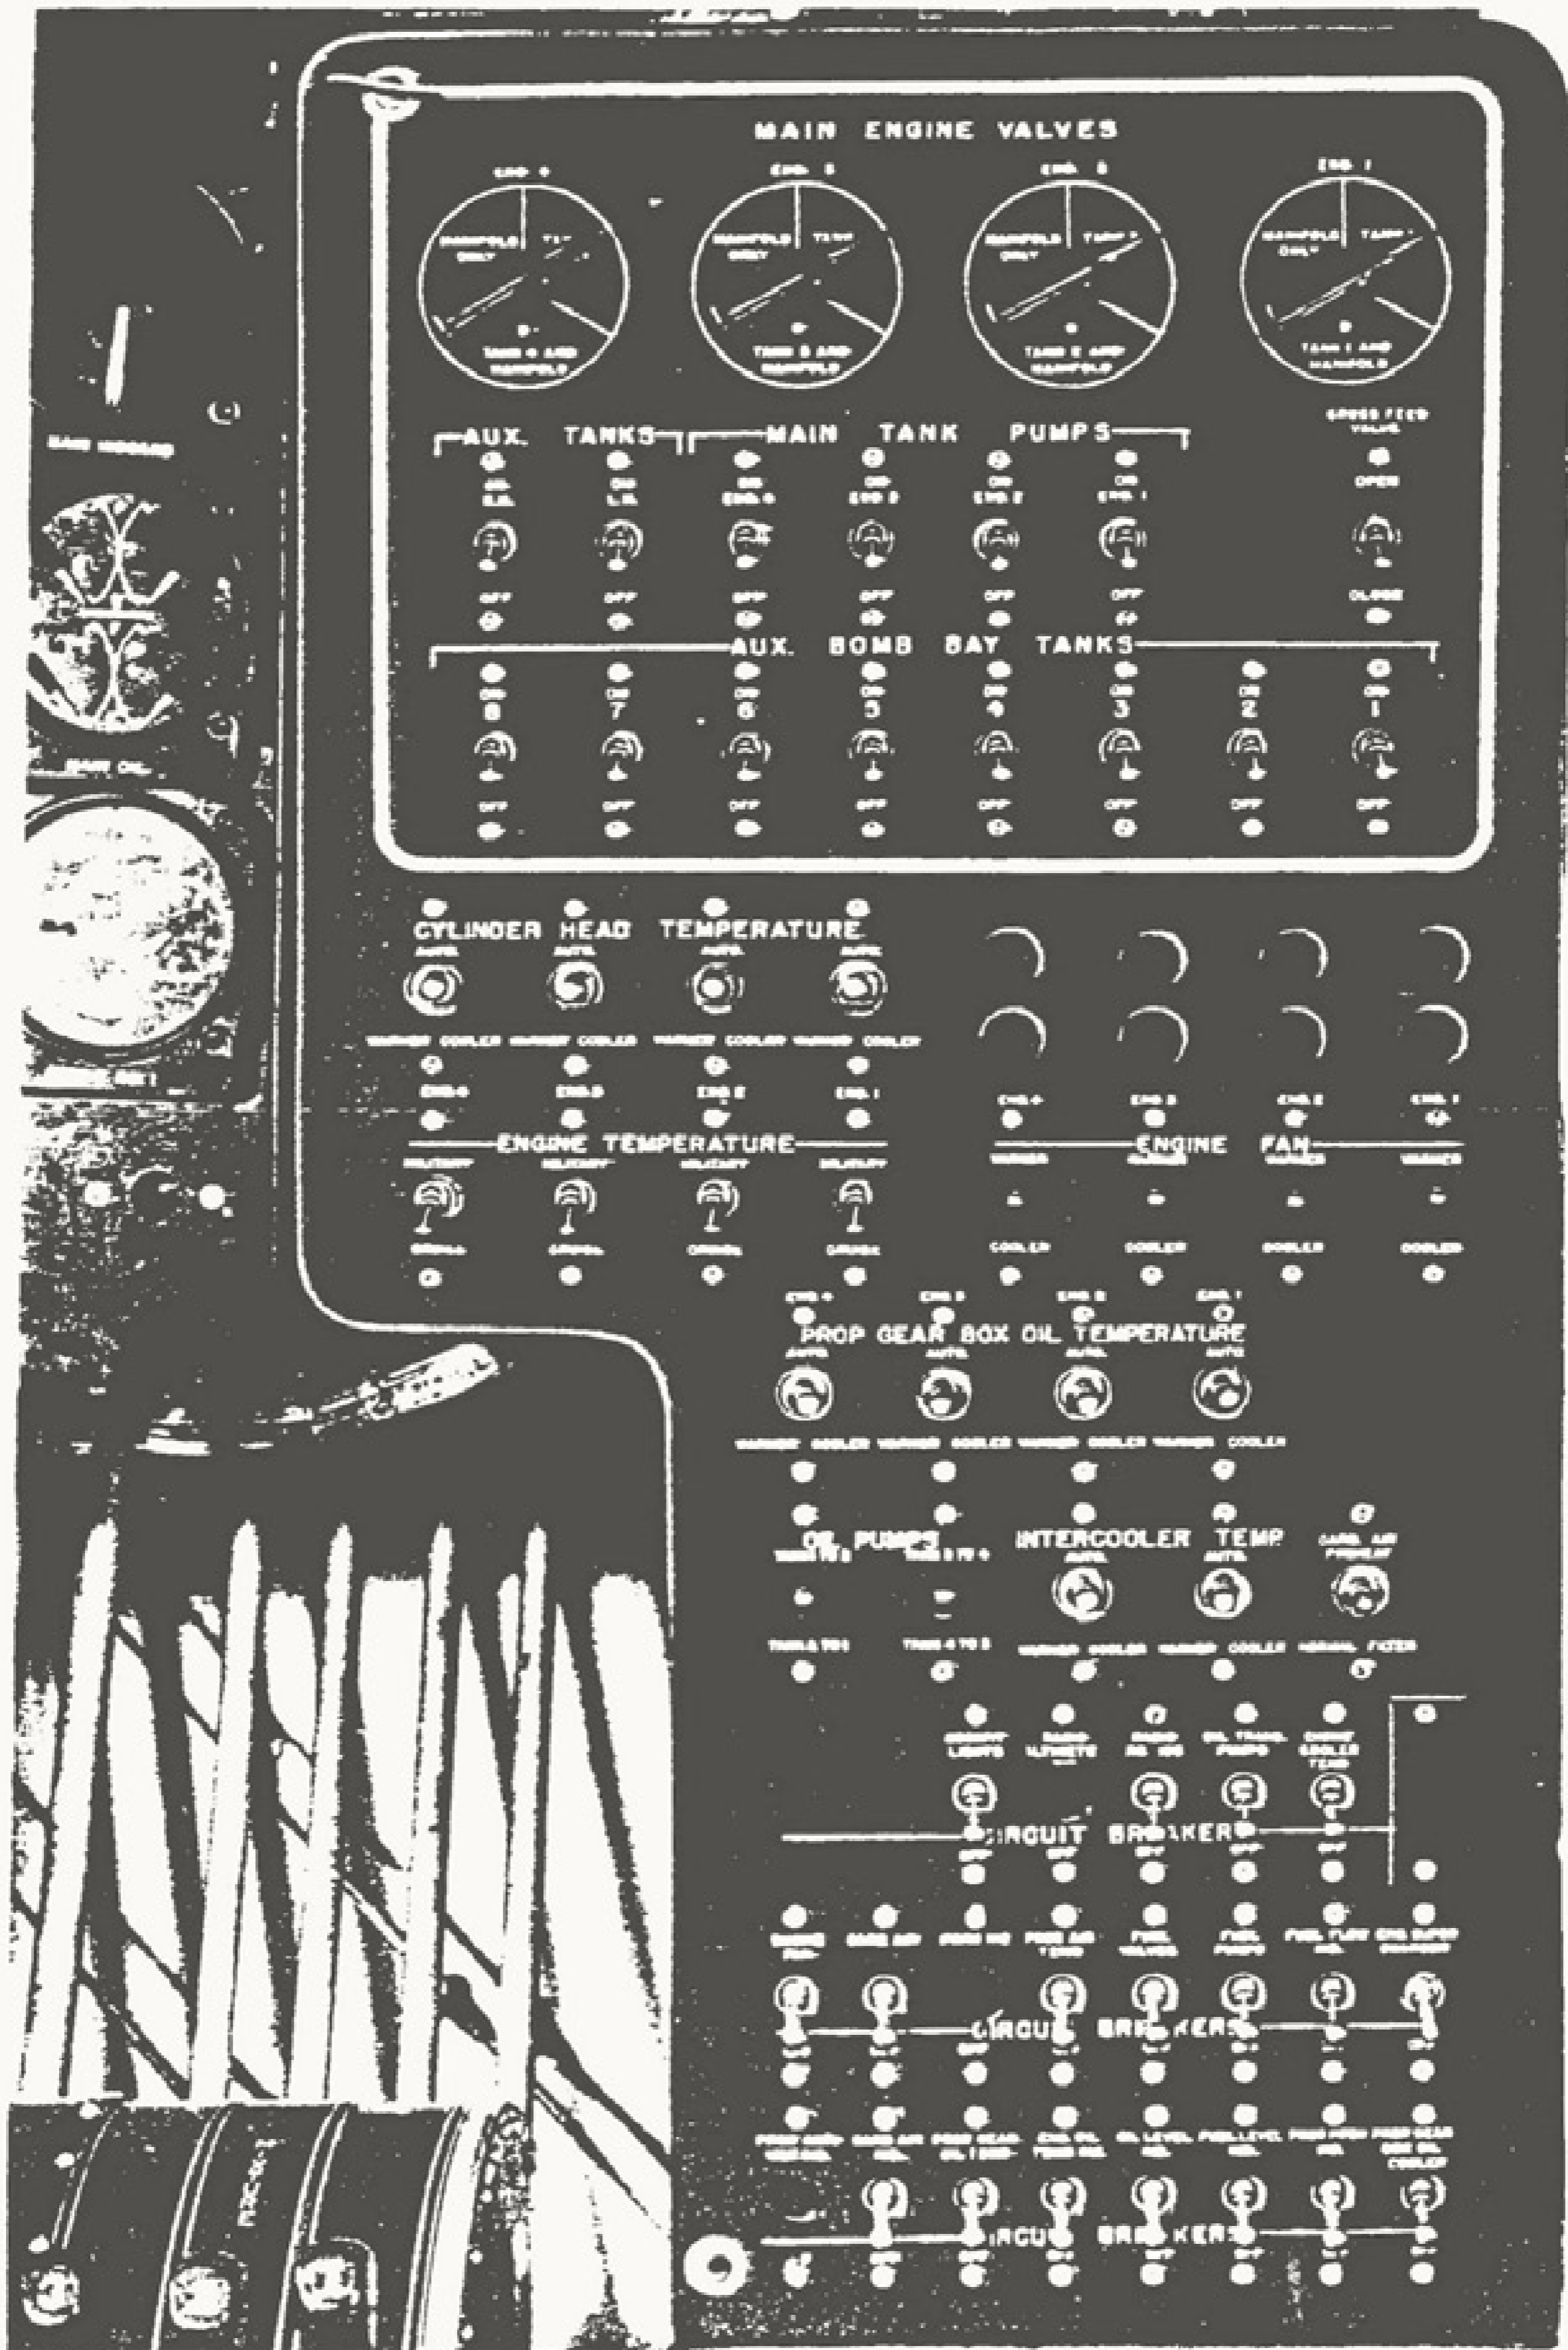
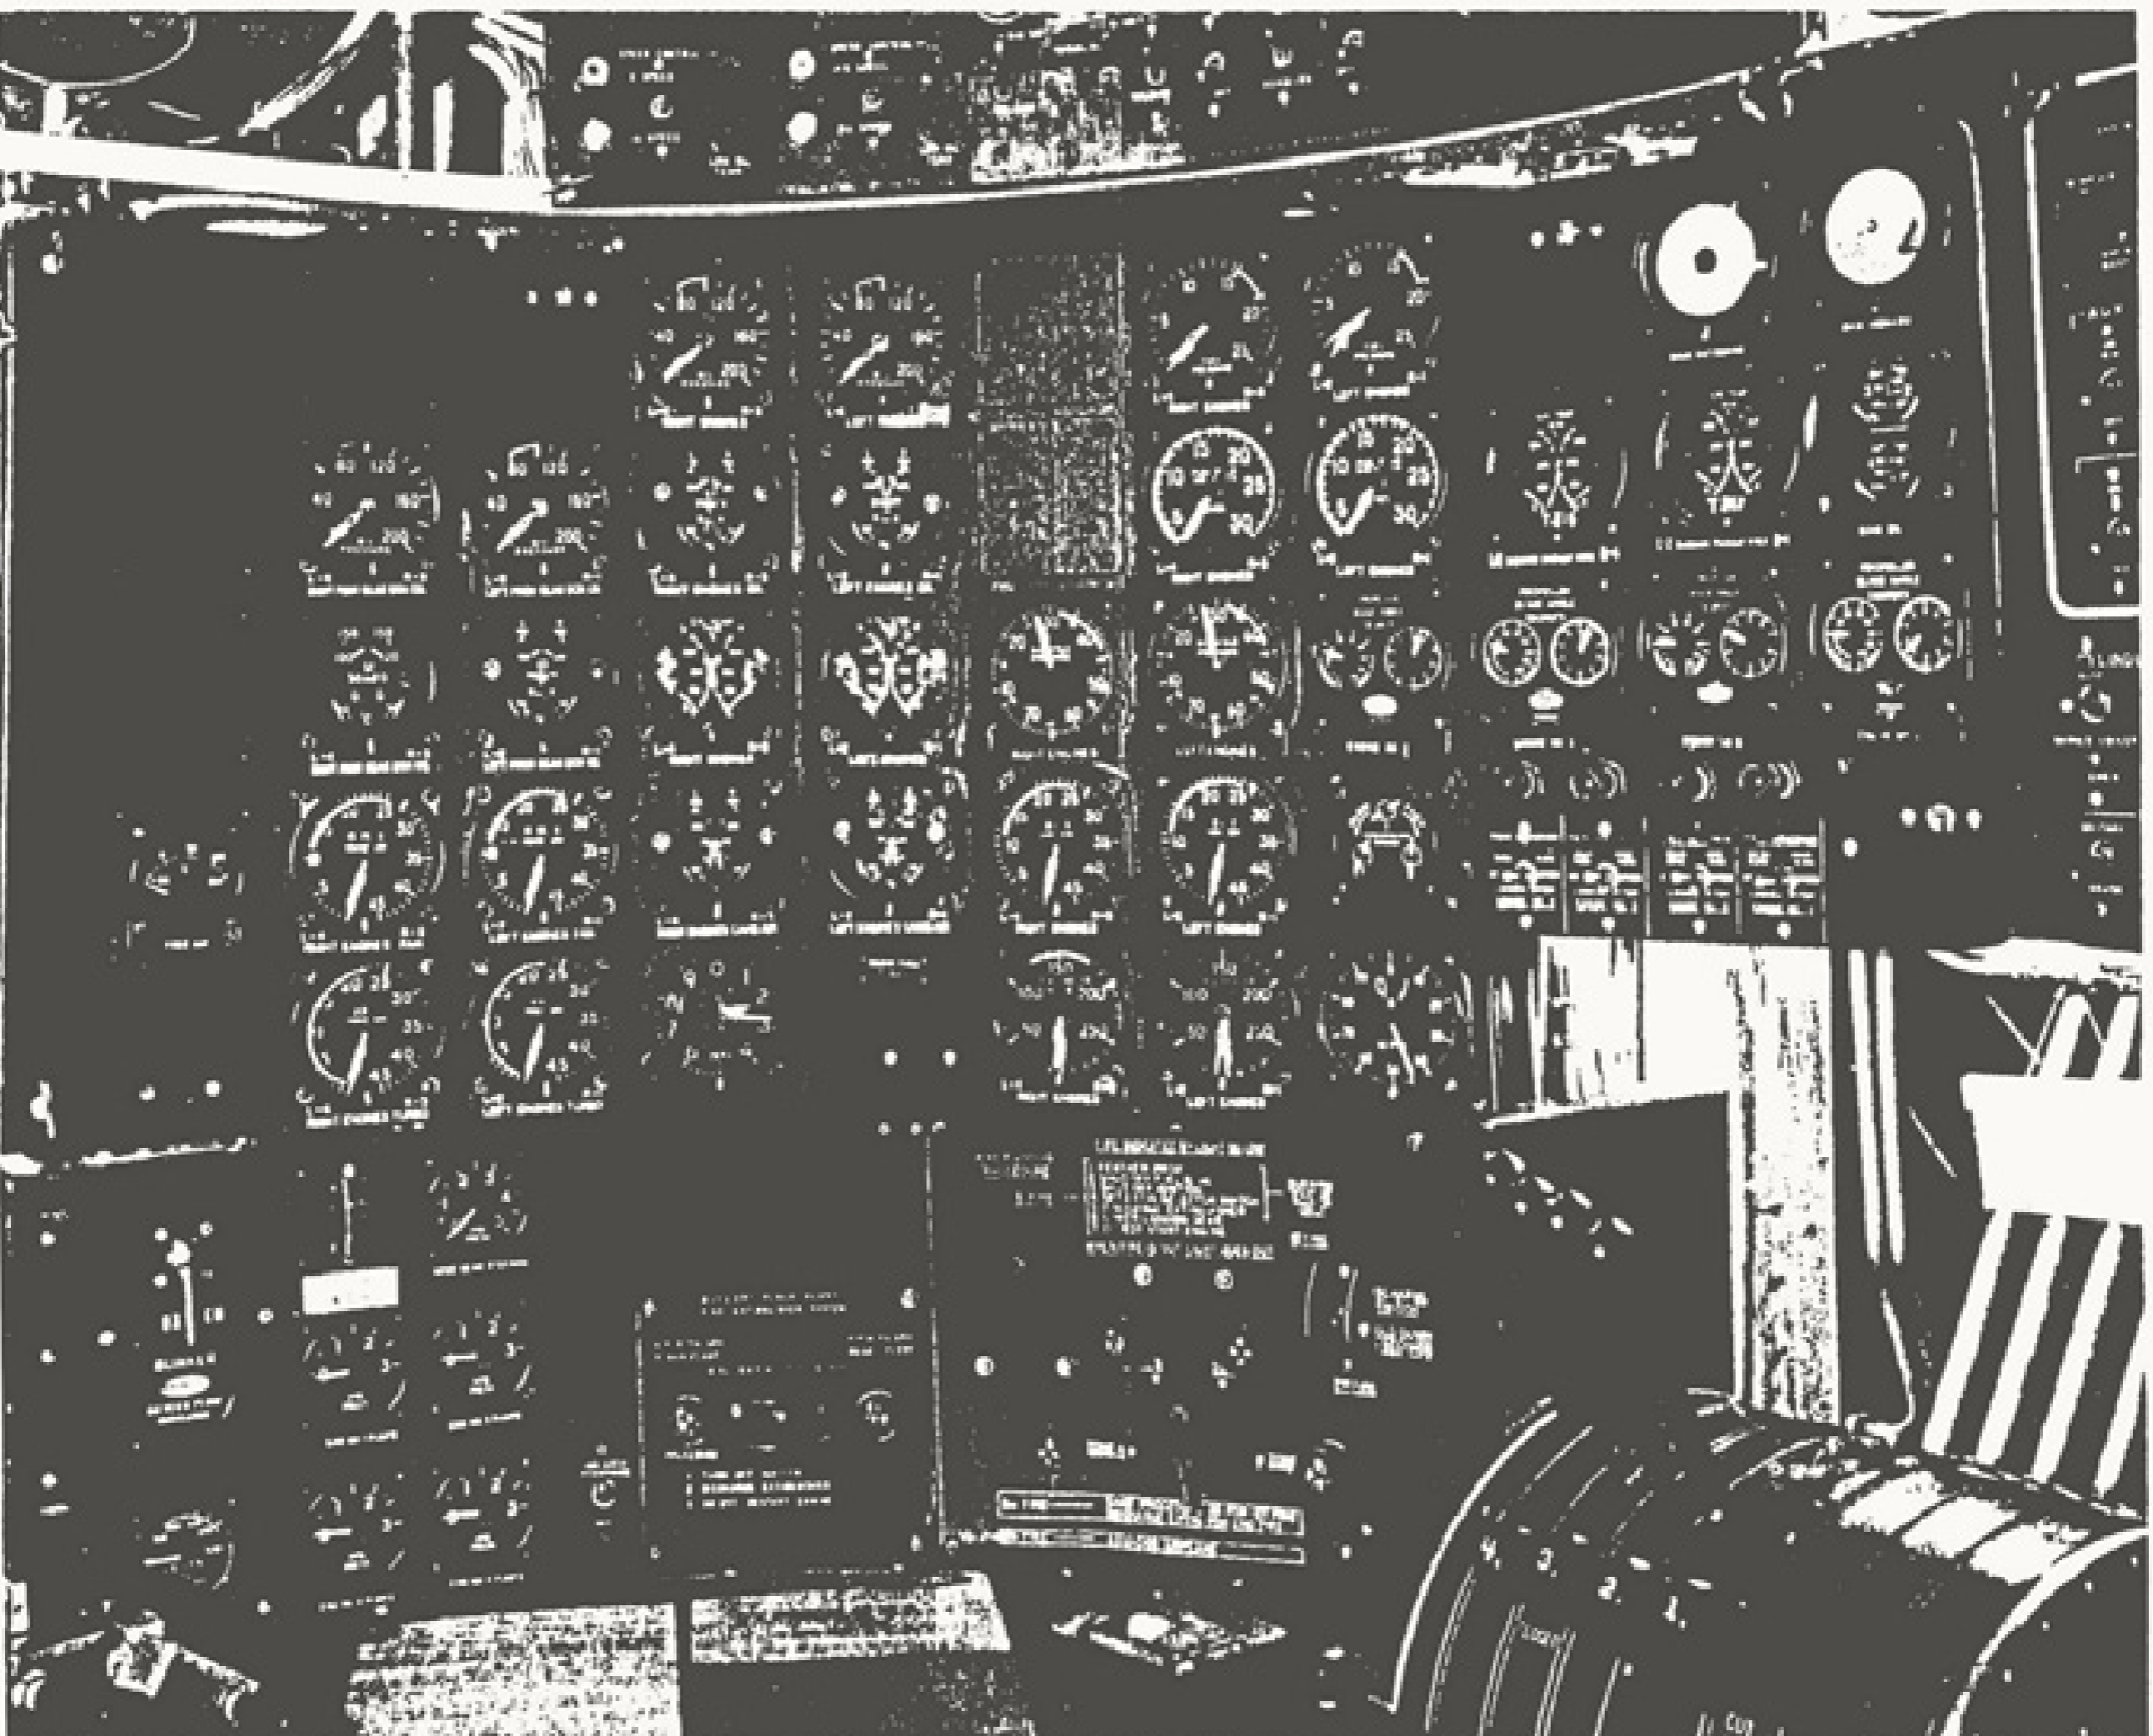

Figure 16. Engineer's Lower Electrical Control Panel
Figure 18. Engineer's Instrument Panel
d. MAIN ENGINE VALVES.- Fuel is directed to the engines through a series of motor-controlled valves which are operated by the MAIN ENGINE VALVE switches. (See figure 16.) The "TANK # ONLY" position connects an engine to its main tank only. "TANK AND MANIFOLD" position connects the tank and its engine to the manifold line. "MANIFOLD ONLY" position of a switch connects its respective engine to the manifold and shuts off its main tank.
e. MAIN TANK PUMP SWITCHES.- These switches located on the engineer's lower electrical panel (See figure 16) have "ON" and "OFF" positions to control the single speed tank pumps.
g. CROSS FEED VALVE SWITCH. (See figure 16.)- This switch, having "OPEN" and "CLOSE" positions, controls valves in the manifold line. When the switch is in the "OPEN" position, fuel is allowed to flow through the manifold line, so that an engine or engines may be operated with fuel supplied by a tank on the opposite side of the airplane.
h. FUEL FLOW INDICATOR.- Two fuel flow indicators of the dual indicating type are located on the engineer's instrument panel. (See figure 18.)
a. TRANSFER SWITCHES.- Two oil transfer switches are located on the engineer's lower electrical control panel. (See figure 16.) One switch is for the two left-hand tanks and the other for the right-hand tanks. One position of a switch transfers oil in one direction and in the other position the direction of transfer is reversed.
e. PROPELLER CONTROLS. (See figures 18 and 25.)- A master propeller control, engineer's disconnect switch, feathering controls, and pitch reversing switches are located on the pilot's pedestal. The pilot can control the rpm settings of all four propellers with the master control. The master propeller control must be moved to the "INC.RPM" or "DEC.RPM" position until the desired rpm is reached. The engineer is provided with individual controls for each propeller consisting of; a
h. CARBURETOR AIR CONTROL SWITCH.- A single three-position switch, see figure 16, is used
i. ENGINE FAN SWITCHES.- The engine fan switches, figure 16, have two momentary positions, "WARMER" and "COOLER." The center position is off. Two dual indicating fan speed tachometers are located on the engineer's instrument panel. (See figure 18.) Holding a switch to the "WARMER" or "COOLER" position decreases or increases the fan speed respectively. Approximately 6 seconds are required to change the fan speed from one extreme to the other.
j. CYLINDER HEAD TEMPERATURE CONTROL SWITCHES.- These switches, figure 16, control the opening and closing of cooling flaps installed in the trailing edge of the wing. The switches have three positions including an "AUTOMATIC" position. The "AUTOMATIC" position is not used. Cylinder head temperatures must be manually controlled by holding the switches to the "WARMER" or "COOLER" position momentarily and then returning them to the center (off) position. The length of time for holding a switch to
l. INTERCOOLER TEMPERATURE CONTROL SWITCHES. These two switches, one controlling the intercooler temperature for the two left engines and the other the two right engines, are located on the engineer's lower control panel. (See figure 16.) The switches have an "AUTOMATIC" position, momentary "OPEN" and "CLOSE" positions, and a center off position. Intercooler temperature is manually controlled by holding a switch to the "OPEN" or "CLOSE" position for an estimated length of time according to the amount of temperature change desired and then returning the switch to the center position. Operating time from one extreme to the other is approximately 38 seconds.
50. **BLOWER THROAT FIRE EXTINGUISHER.**- A special fitting is provided in the airplane, among the stowed items, to replace the conventional nozzle on a 50# Co₂ fire extinguisher bottle. The ground crew must attach this fitting to an extinguisher, ready for use before starting the engines. The fitting attaches to connections (two in each main gear wheel well) which lead directly to the blower section of each engine. A sudden rise in temperature, shown by the blower throat temperature indicators, figure 18, indicates a fire. The Co₂ charge may be released directly to the affected blower section by the ground crew.